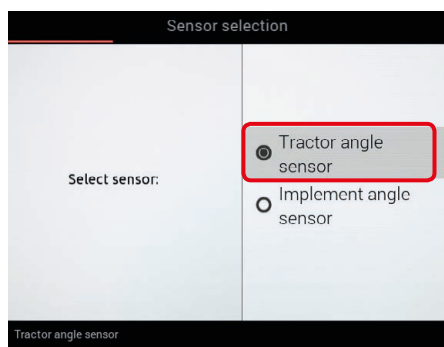

Fig. 35
**2** Select **Tractor angle sensor** (Fig. 35) and press **[OK]**.